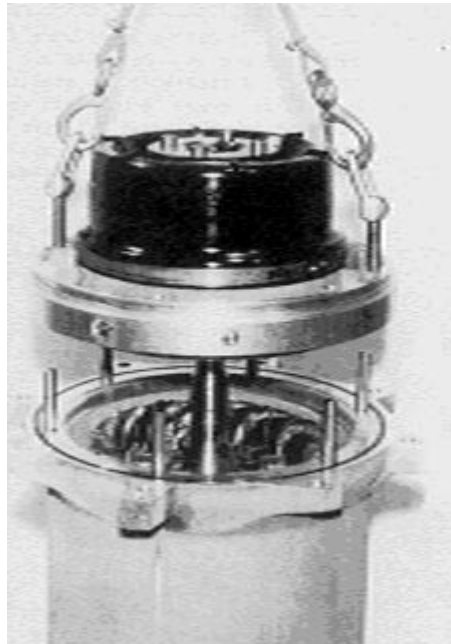

Fig 9
- The seal unit complete is delivered with O-rings assembled . Put in place the seal unit cpl . on the inner casing on the stud bolts according to **Fig 9** .